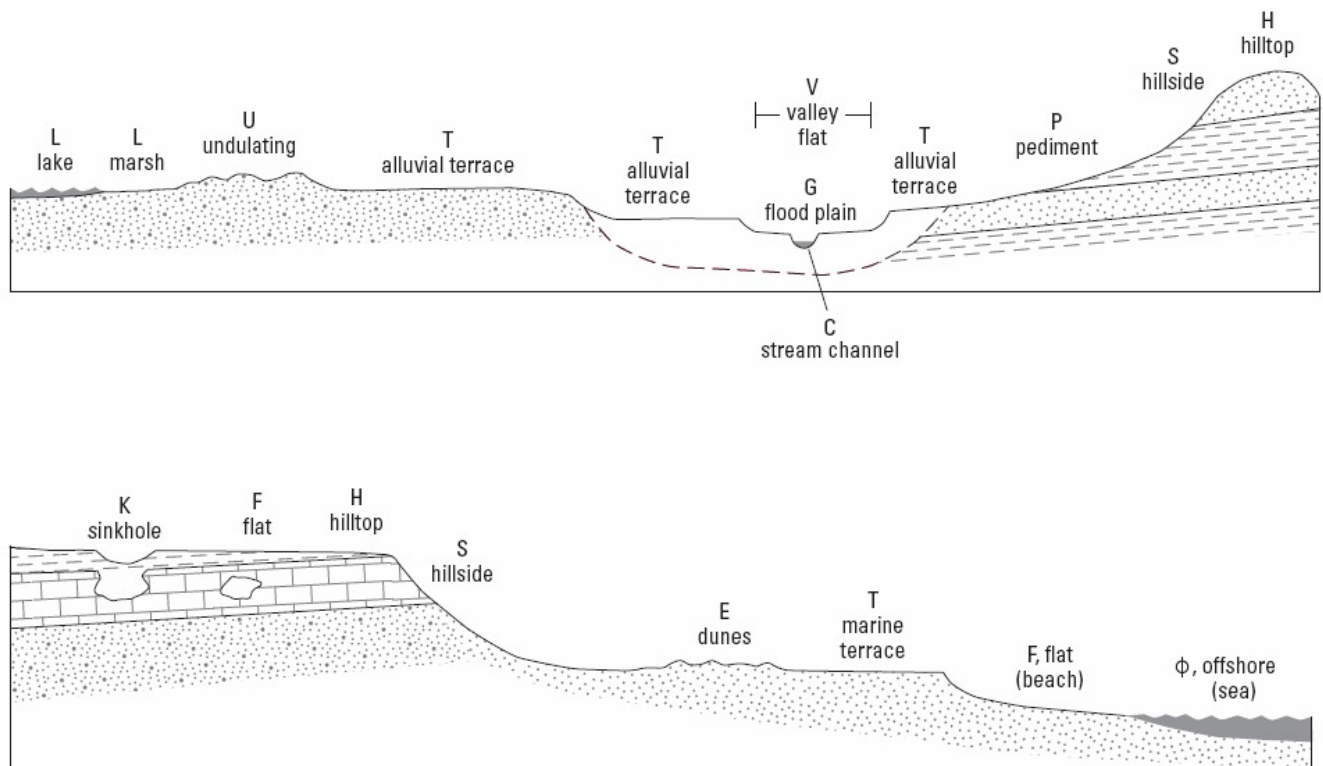

Figure 2. Topographic settings (from Babcock and other, 2004).
Description: A description of the topography at the site selected from a list defined as follows (fig. 2; Babcock and others, 2004):
- (A) Alluvial fan refers to a low, outspread, relatively flat to gently sloping mass of loose rock material shaped like an open fan or a segment of a cone. It is deposited by a stream at a place where it issues from a narrow mountain valley upon a plain or broad valley.
- (B) Playa refers to a normally dry, vegetation-free, flat-floored area composed of thin, evenly stratified sheets of fine clay, silt or sand, and represents the bottom part of a shallow, completely closed or undrained desert lake basin in which water accumulates and is quickly evaporated, usually leaving deposits of soluble salts.
- (C) Stream channel refers to the bed in which a natural stream of water flows. It is the trench or depression washed or cut into the surface of the earth by the moving water that it periodically or continuously contains. This term includes intermittent or ephemeral streams, washes, arroyos, and coulees.
- (D) A local depression is an area that has no external surface drainage. Some depressions are small, but others may cover several square kilometers. Do not use this designation for small "interdune depressions" or those on an undulating surface (use undulating). Do not use for large, closed basins, such as Denakil Depression.
- (E) Dunes refer to mounds and ridges of windblown, or eolian sand. This term should not be used for an isolated mound unless it has a rather extensive area and is of hydrologic significance to the site.
- (F) A flat surface may be part of a larger feature, such as an upland flat, mesa or plateau, coastal plain, lake plain, or pediment terrace and valley flat, which are special varieties of flat surfaces, and are classified separately.
- (G) Flood plain refers to the surface or strip of relatively smooth land adjacent to a river channel, constructed by the present river in its existing regimen and covered with water when the river overflows its banks at times of high water.
- (H) A hilltop is the upper part of a hill or ridge above a well-defined break in slope. A site on the crest of an escarpment or top of a cuesta slope (see fig. 2) should be in this category. Use this category for hills of significant height above a generally flat area, but not for small "swells" a few meters high on an undulating surface such as a valley flat.
- (K) A sinkhole is a special type of depression that results from the dissolving of soluble rocks (salt, gypsum, limestone) and the subsequent collapse of the earth into the solution cavity. As such, it has special significance to the understanding of the hydrology in the vicinity of the site.
- (L) Lake refers to a body of inland water. However, this code also may be used for swampy or marshy areas where the ground may be saturated, or water may stand above the land surface for a significant period of time.
- (P) Pediment refers to a plain of combined erosion and deposition that forms at the foot of a mountain range.
- (S) A hillside is the sloping side of a hill--that is, the area between a hilltop and valley flat. The important factor is the general aspect of the site. The steepness of the slope or height of the hill is not significant.
- (T) An alluvial or marine terrace is generally a flat surface usually parallel to, but elevated above, a stream valley or coastline. Characteristically, steep slopes or escarpments separate the terrace from an adjacent upland on one side, and a lowland (coast or valley) on the other. Due to the effects of erosion, the terrace surface may not be as smooth as a valley flat, and within the general terrace area there may be undulating areas of dune sand or hill slopes.
- (U) Undulating topography is characteristic of areas which have many small depressions and low mounds. An undulating surface is primarily a depositional feature, not an erosional one. The term should not be misused for areas that have slightly irregular surfaces resulting from erosion.
- (V) A valley flat is a low flat area between valley walls and bordering a stream channel. It includes the flood plain, and generally is the flattest area in the valley. The surface may have a slight slope toward the main stream, toward the valley walls, or may be marked by valleys or smaller streams. Generally, the valley flat is separated from alluvial terraces, or from the upland, by a pronounced break in slope. Sometimes, however, the erosion of adjacent upland and the deposition of colluvium may make the outer edge of the alluvial flat. Use this code for sites in small valleys on a plain, if the site taps alluvium or the valley situation has hydrologic significance.
- (W) An upland draw is a small natural drainageway or depression, usually dry, on a hillside or upland.